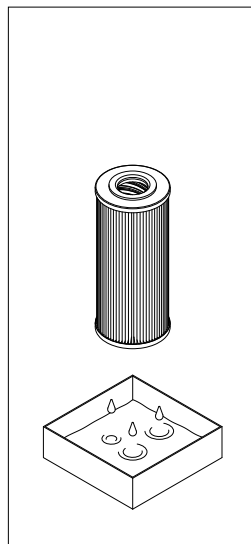

fig. 7
- (Fig. 7) Drip the waste operating fluid from the filter element to the collection vessel